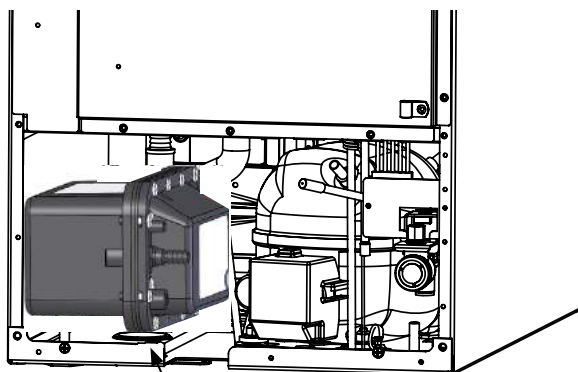

Figure 55
6. Rotate the drain pump and remove from the ice machine, (See Figure 55). It may be necessary to disconnect the ground wire connection in the back flange of the cabinet. (See Figure 51).